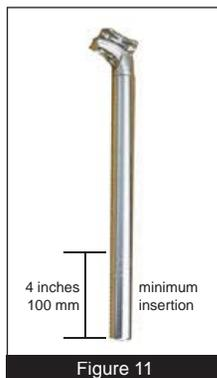

Figure 11
**CAUTION:** For safety, keep at least 4 inches of the seat post inside the seat tube, as shown in **Figure 11**.